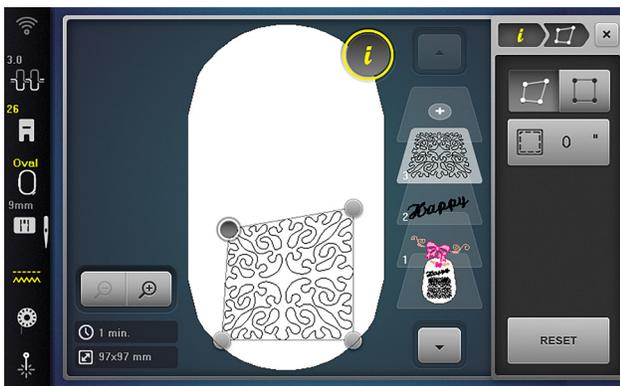

Fig. 28
23. Select one corner of the design (Fig. 28). Use the Multi-function Knobs to align that point to match the corresponding corner of the marked shape on the hooped fabric.